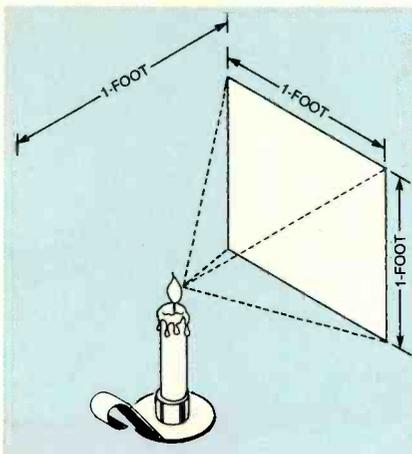

Fig. 1. A foot-candle is the amount of light that shines on a one-foot-square surface that is one foot away from a standard candle.
**"Light" Talk.** Like electricity and magnetism, light has its own set of definitions. The basic unit of light is the *candela*, which is equal to one *lumen per steradian* (a unit of solid angle). The *lumen* is a measure of optical power. In the English system, one lumen per square foot is the light intensity received by a one-square-foot target placed one foot away from a standard point-source candle. See Fig. 1. Another more common term for the lumen is *candlepower*, which is given in foot-candle units. As you can see, candelas, candlepower, and foot-candles equally share the same unit quantity: the lumen.